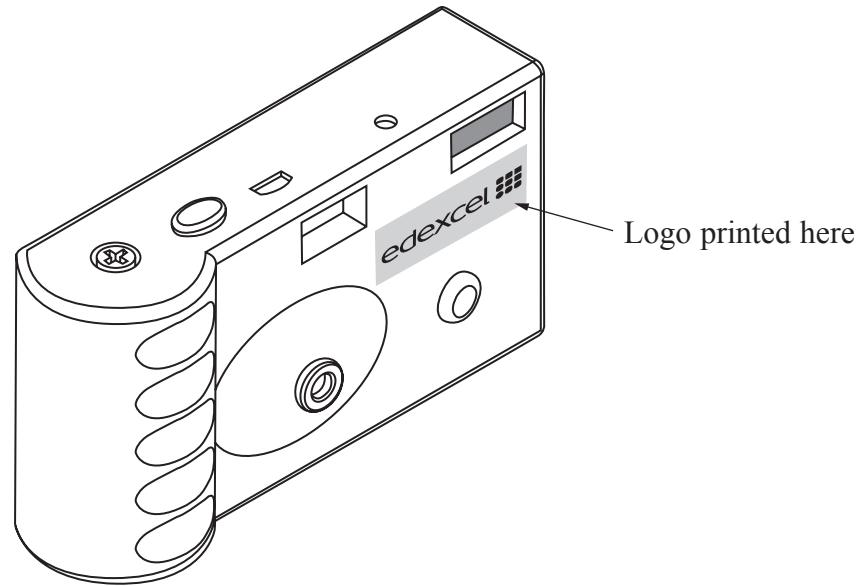

Figure 4
4. Figure 4 shows a mass produced 'single use' camera.